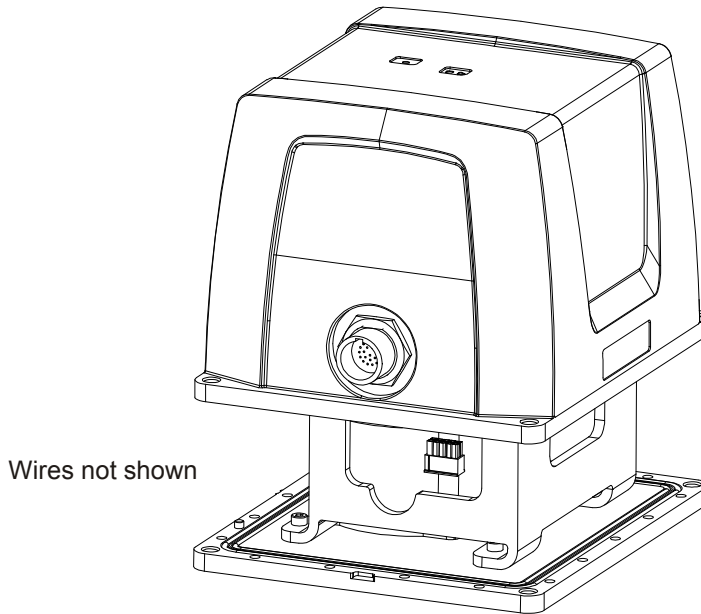

Figure 65: Disconnect Wiring Harness from SDLC Card
2. While squeezing and holding the assembly tightly together, carefully turn the assembly over and set it down as shown in *Figure 65*. Raise the enclosure body, and disconnect the internal cable harness at the SDLC board, as shown. Ensure the O-rings remain with the base when it is removed, and that they are not damaged.